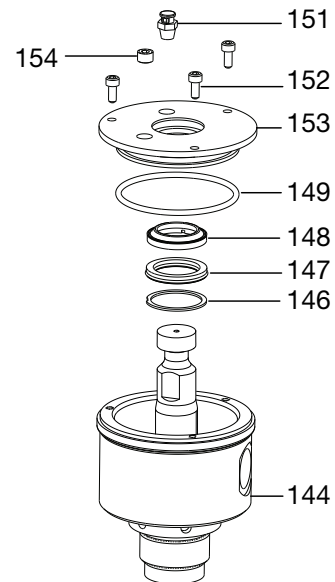

FIG. 9
- On displacement pumps with enclosed wet cups (144), use an M4 hex wrench to remove the three screws (152) from wet cup cover (153) and remove cover. Drain and clean out the wet cup (144). See FIG. 9.
- On displacement pumps with enclosed wet cups (144), use o-ring pick to remove o-ring (149), and a flat head screwdriver to remove snap ring (146), wiper (148), and seal (147).